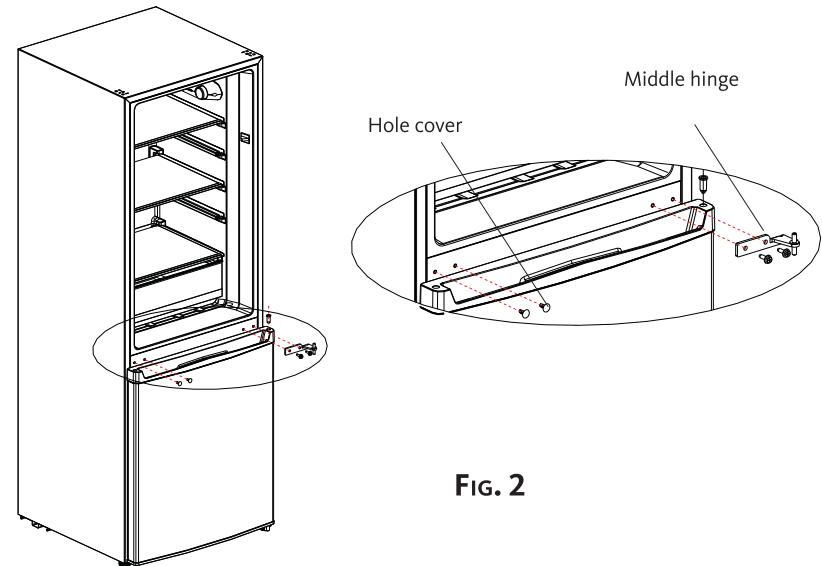

FIG. 2
- Carefully lift the refrigerator compartment door and place it on a soft surface to avoid scratches. Remove the 2 hole covers. Unscrew and remove the middle hinge (see figure 2).